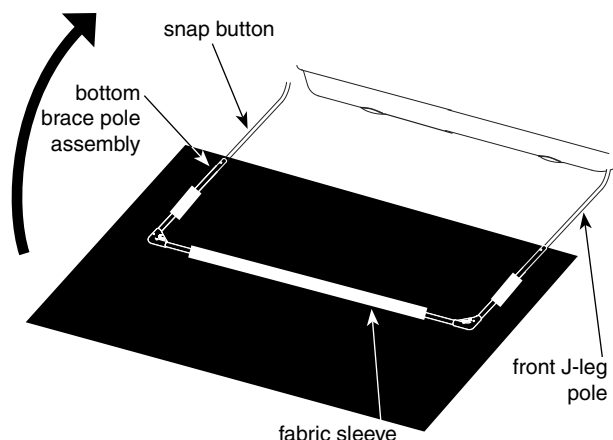

FIGURE 8
4. Unfold the skin and locate the Eskimo logo near the zippered door, which is the front of shelter. With the front of shelter skin laying face down on the ground, in front of shelter, locate the (3) fabric sleeves sewn to the bottom seam on front side of shelter. Slide the 54.52" horizontal assembly pole (68189) through the long fabric sleeve. Insert the horizontal assembly pole into (2) plastic corner pieces by lining up snap button with snap button holes in plastic corner pieces. Snap into place. Pole will have a snug fit and may shave some interior plastic off. This is by design for a good fit. **SEE FIGURE 8.**
5. Insert (2) 25.14" vertical assembly poles (68185) through the short fabric sleeves and into the previously assembled horizontal pole/plastic corner assembly by lining up snap button with the snap button holes in plastic corner pieces. Snap into place. Poles will have a snug fit and may shave some interior plastic off. This is by design for a good fit. **SEE FIGURE 8.**
6. Take the J-hinge poles from each hinge assembly and insert them into the assembled bottom cross brace pole assembled in step 5. Push snap buttons inward and allow cross brace to snap into place. **SEE FIGURE 8.**
- Unfold the skin and locate the Eskimo logo near the zippered door, which is the front of shelter. With the front of shelter skin laying face down on the ground, in front of shelter, locate the (3) fabric sleeves sewn to the bottom seam on front side of shelter. Slide the 67.52" horizontal assembly pole (68191) through the long fabric sleeve. Insert the horizontal assembly pole into (2) plastic corner pieces by lining up snap button with snap button holes in plastic corner pieces. Snap into place. Pole will have a snug fit and may shave some interior plastic off. This is by design for a good fit. **SEE FIGURE 8.**
- Insert (2) 29.64" vertical assembly poles (68187) through the short fabric sleeves and into the previously assembled horizontal pole/plastic corner assembly by lining up snap button with the snap button holes in plastic corner pieces. Snap into place. Poles will have a snug fit and may shave some interior plastic off. This is by design for a good fit. **SEE FIGURE 8.**
- Take the J-hinge poles from each hinge assembly and insert them into the assembled bottom cross brace pole assembled in step 5. Push snap buttons inward and allow cross brace to snap into place. **SEE FIGURE 8.**